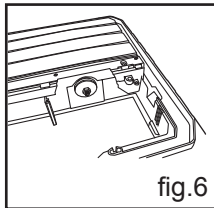

fig.6
- Remove the nut and outer flange from the spindle (fig. 6).